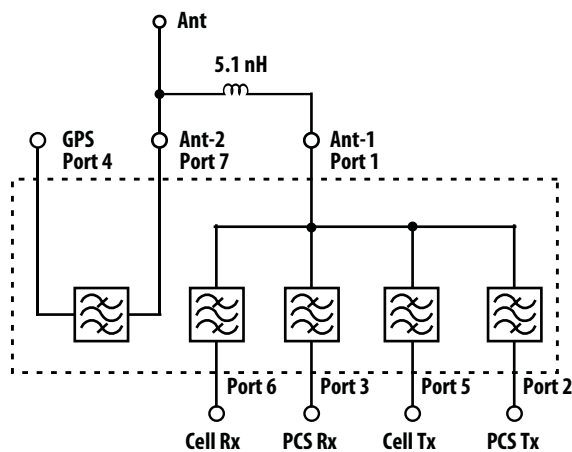

Figure 2. Single Antenna Application.
5. Specifications is for Single Antenna connection as shown in Figure 2 and include effect of 5.1 nH inductor added between Port 1 (Ant-1) and Port 7 (Ant-2) via simulation.
- Specifications is for Single Antenna connection as shown in Figure 2 and include effect of 5.1 nH inductor added between Port 1 (Ant-1) and Port 7 (Ant-2) via simulation.
Optionally, if single antenna operation is required, the Ant-1 and Ant-2 ports of the ACFM-7104 can be connected together as in Figure 2.
2. Single Antenna connection as shown in Figure 2. Data measured with  $Z_0=50 \Omega$  for all ports; performance shown includes effect of 5.1 nH inductor added to Port 1 (Ant-1) and Port 7 (Ant-2) via simulation.